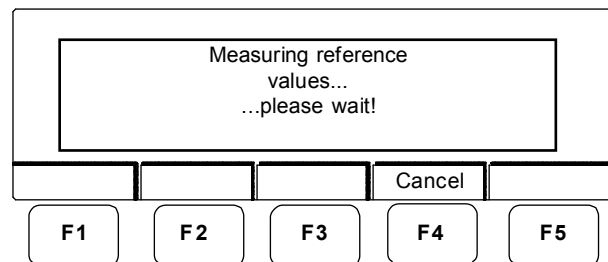

Figure 13-16.
4. Press F2 (Yes). The measuring cycle starts and the “Measuring reference values...please wait” message displays (Figure 13-16).